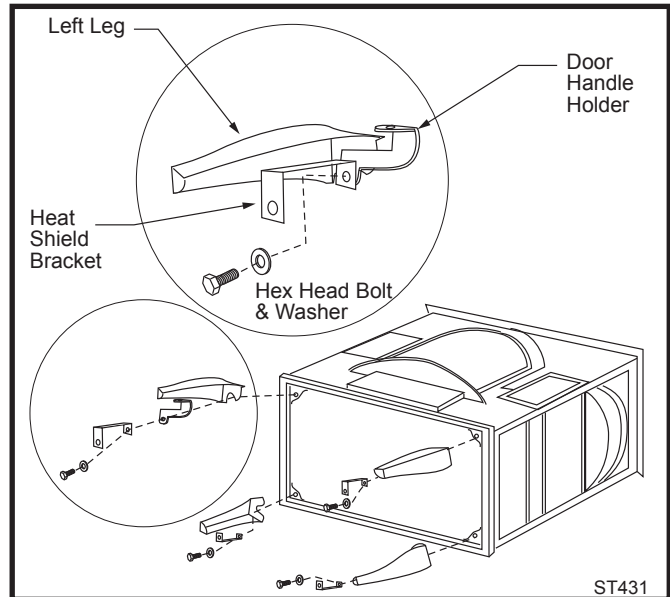

Fig. 19 To attach the legs, remove the bolts from the stove bottom and reassemble with the handle holder, heat shield brackets (if necessary) and washers.
- door handle insert holder on the bolt for the left rear or either front leg. (Fig. 19)
3. Slide the leg into position around the bolt and fasten it finger-tight. Repeat this process for all four (4) legs.
4. Fasten, finger-tight, the bottom heat shield to the brackets using the four (4) 1/4-20 x 1/2" bolts with nuts.